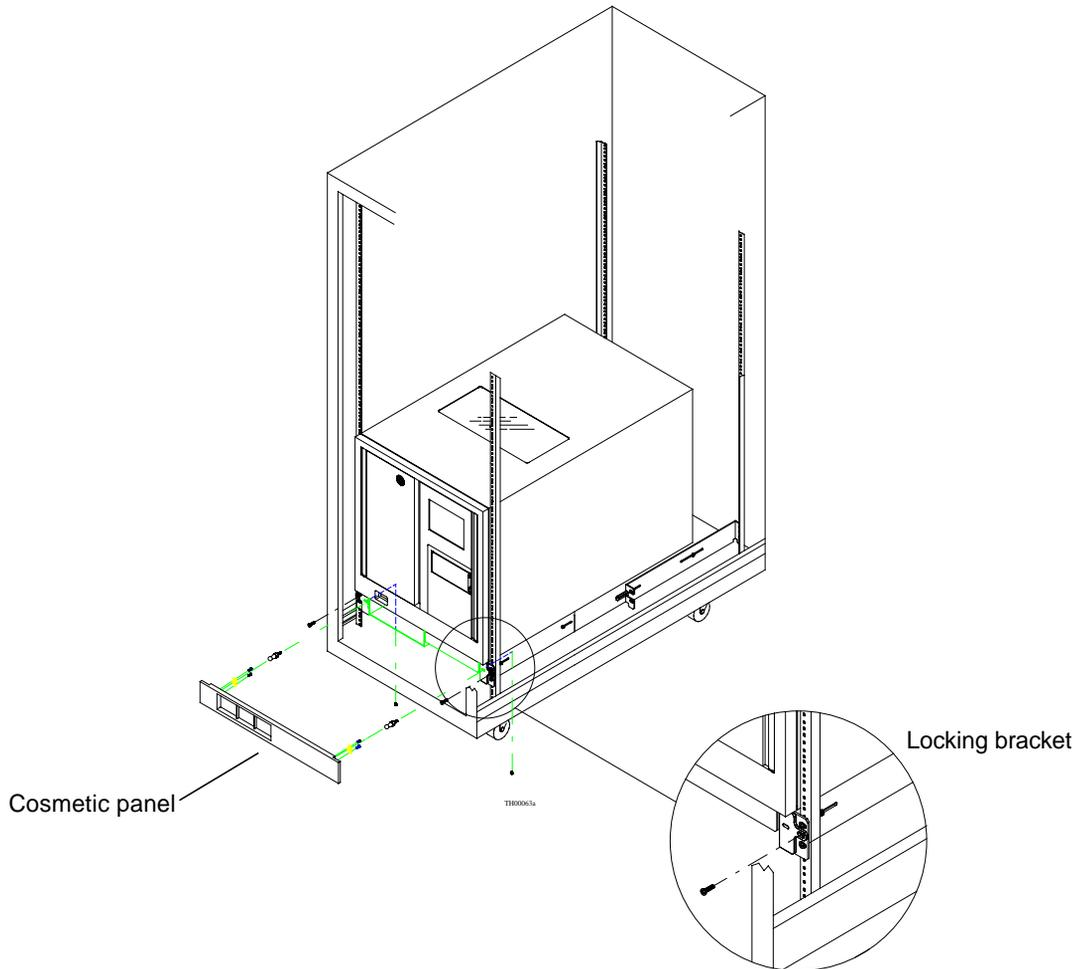

FIGURE 2-10 Securing the Locking Brackets
2. Secure the locking brackets at the front of the slide to the retma rails (FIGURE 2-10).